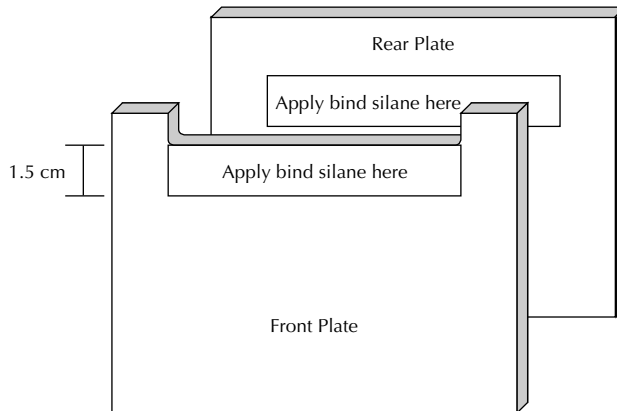

Figure 2-1. Apply bind silane to the plates as shown. Note that only squaretooth combs require back plate silane treatment.
- Use a cotton swab to apply the solution on the inside of the short plate over the area below the edge of the notch where the wells will form (Figure 2-1). If you are using a squaretooth comb, apply solution to the rear plate using the front plate as a guide to determine where to place the bind silane onto the rear plate (other combs do not require back plate silane treatment). Allow the solution to dry before gel assembly.